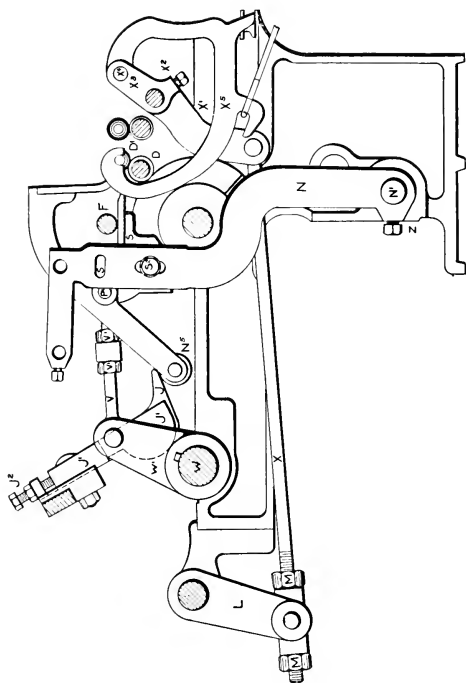

FIG. 3.
At index 19, the nipper being at the forward end of its stroke, set the bottom jaw (cushion plate) parallel to the steel detaching roller by means of the nuts  $V^1 V^1$  (Figs. 3 and 4) and at the required distance from it (see Notes 5 and 7). The pivot set screws  $Z$  must be loose when this is done.
At index 27 set the leg J1 down till the incline J (Fig. 3) just touches the bowl N5.
At index 19, place step gauge on the steel detaching roller and with flat 12 ( $\frac{3}{8}$  in.) between the nipper jaws, loosen the bolt that secures the incline J to the leg J1 and dip the point of the incline till it touches the bowl N5 (Fig. 3).
For Egyptian and Sea Island cottons set the roller back as far as the slots S1 (Figs. 3 and 4) will allow. For short cottons and less waste, the roller may be brought  $\frac{1}{4}$  in. further forward. Set the feed roller springs to put **as little tension as possible on the roller**. The amount of feed is regulated by the position of the pin in the feed roller ratchet lever, five teeth (equivalent to  $\frac{1}{4}$  in. of lap per stroke) is usual, four and six being also provided for. The lap roller ratchet must take as many teeth each stroke as the feed roller ratchet and should be set to take half-a-tooth more than the required number.
**Note 13.**—In early machines, the lever L, Fig. 3, was fastened on the shaft W and the roller rocked exactly in time with the nipper. In such machines set the lever L vertically below the shaft W at index 34.
**Note 14.**—In machines of four heads there is one, and in machines of 5 and 6 heads two levers X1 (Fig. 3) cast together with the forked levers X3 and keyed on the shaft X2, the remaining forked levers X3, carrying the weight hooks X5, can be clipped on the shaft in any position. The leather rollers are to be first set all parallel with the bottom roller and each equidistant from the top comb blade at index 19. Commence with the compound levers X1, X3 and adjust by means of the nuts MM and then clip the short forked levers X3 on to
the shaft in proper position. When this is done, the rollers operated by each compound lever X1 may all be set simultaneously to the proper distance from the top comb blades by means of the nuts MM (Figs. 3 and 4).